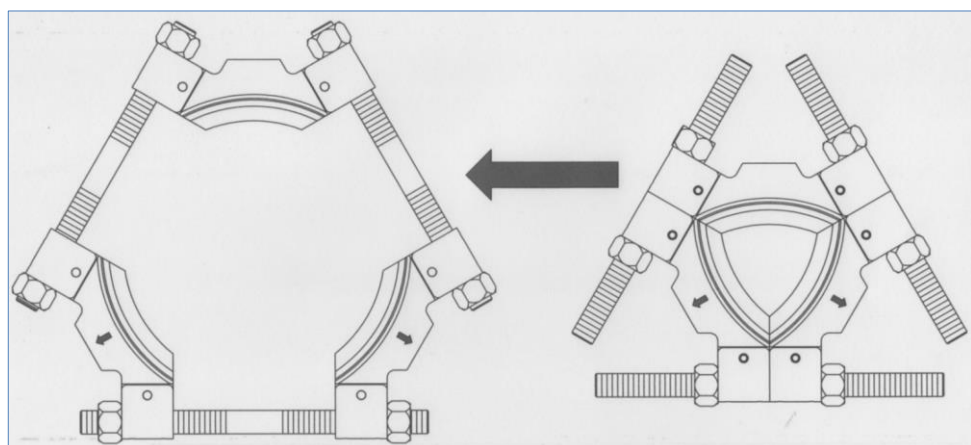

Figure 3 – Opening the Tri-Sectional Plates
- 5.2.1 Ensure the sides marked with the arrow are facing downwards of the two plates. Release the nuts and spread the plates to the fully open position as shown in Figure 3.